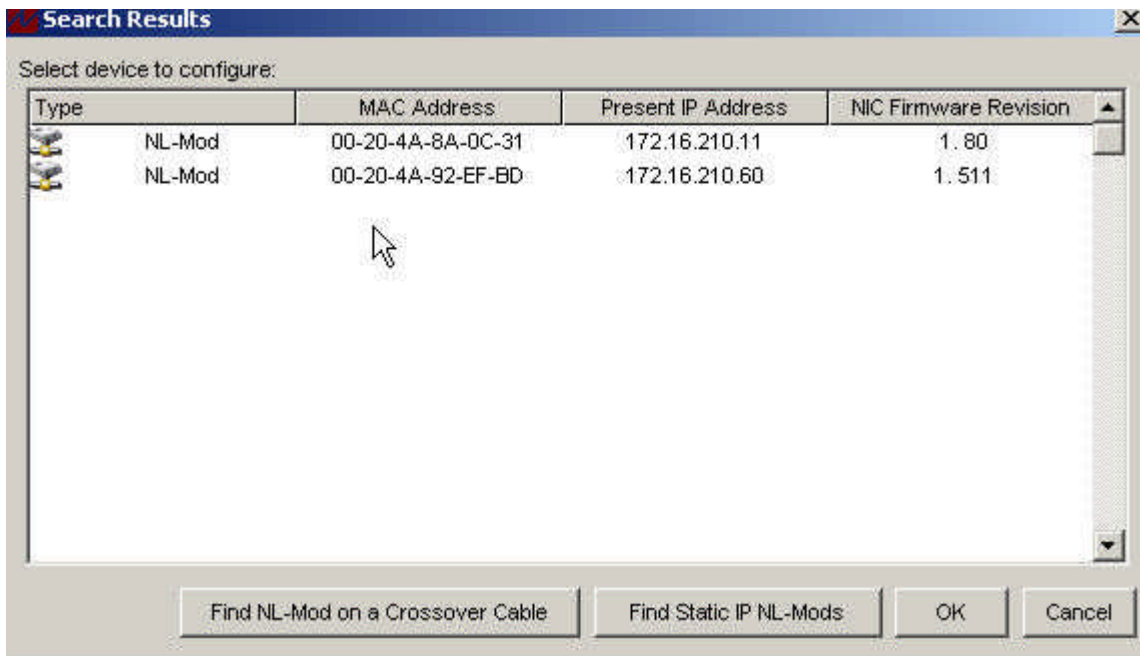

Figure A3.
- 4) The **Search Results** window will display (refer to figure A3). Your NL-Mod should display in this window. If you have multiple unsecured (not programmed) devices on the network, they will also be on the list.